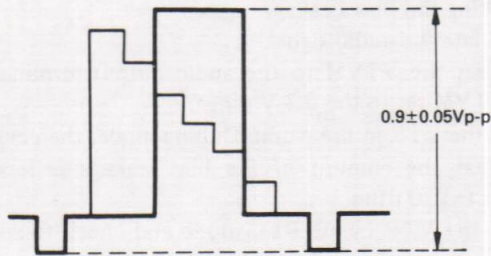

Figure 68
- ① Place the VTR in the REC mode.
- ② Feed colour bars (stair waveform) to the oscilloscope and observe both ends of a resistor across the 75 ohm terminal on the oscilloscope (at the external trigger TP208), and finally adjust resistor R2124 (EE level) so that the stair waveform becomes as shown in Fig. 68.